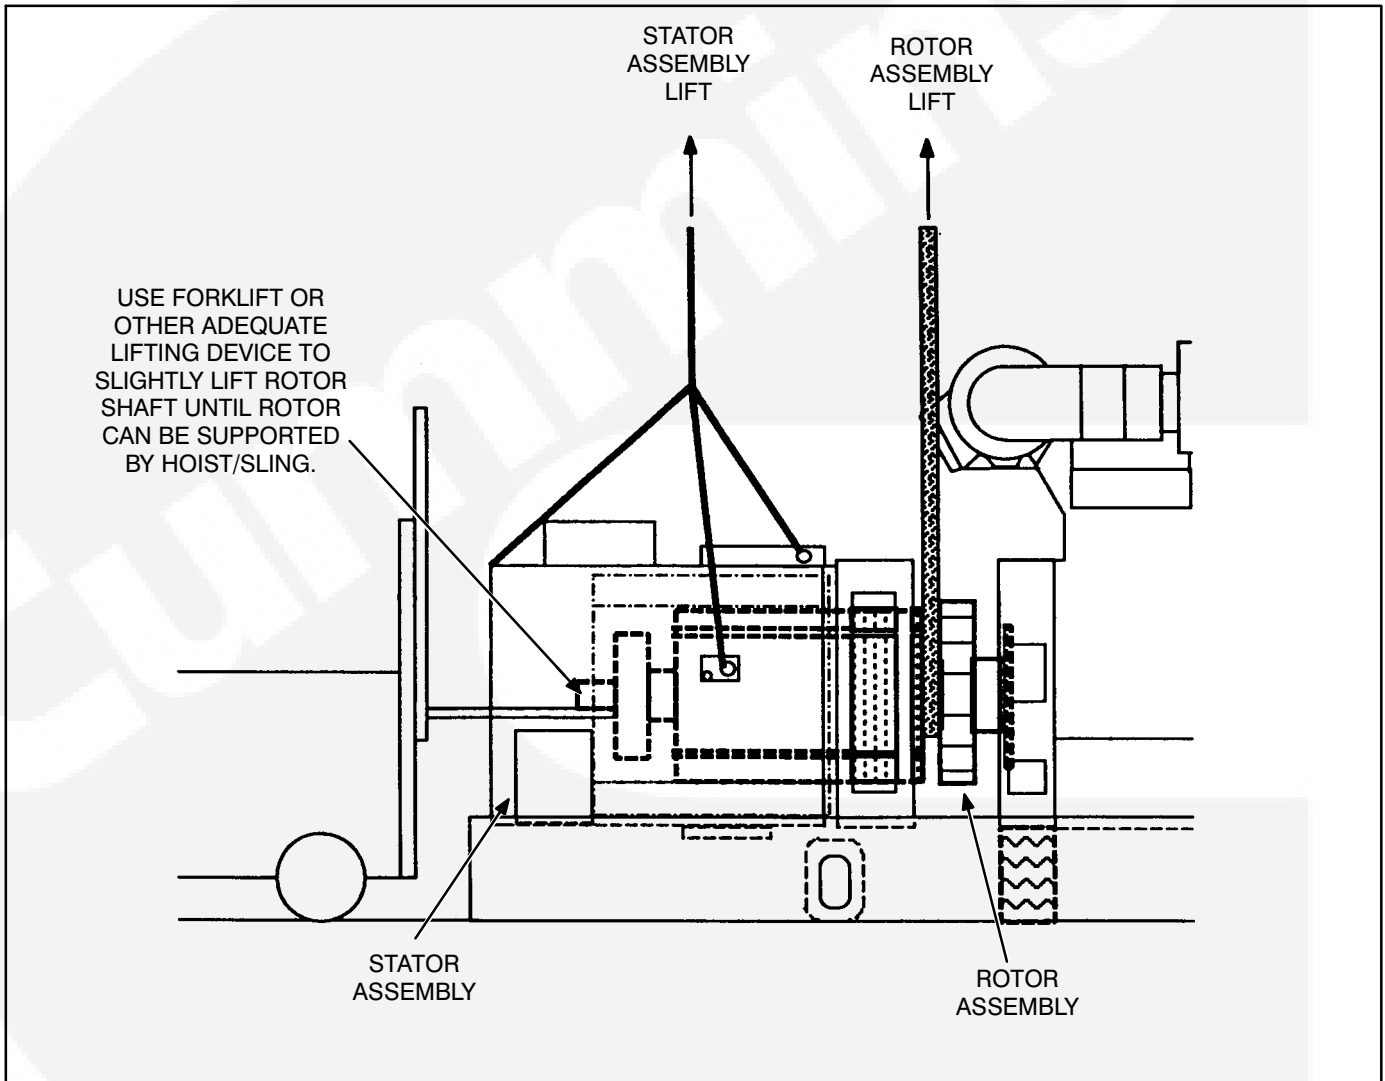

FIGURE 6-12. REMOVING HC6 STATOR ASSEMBLY
19. Using an adequate lifting device, lift the generator (at lifting eyes provided, and main stator housing) until the mounting feet brackets are clear of the frame member (see Figure 6-12 or 6-13).
21. Using a forklift, position a lifting bar of the forklift (inside and in line with the generator) under the rotor shaft. Lift the rotor shaft slightly so that rotor is not resting on inside of stator assembly. See Figure 6-12 or 6-13.